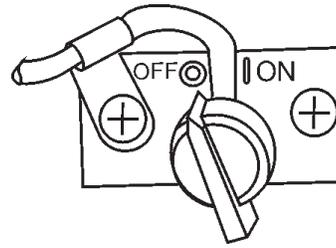

Figure 14. ON/OFF Switch (Off Position)
- After the engine **cools**, turn the engine start/stop switch to the **"OFF"** position (Figure 14).